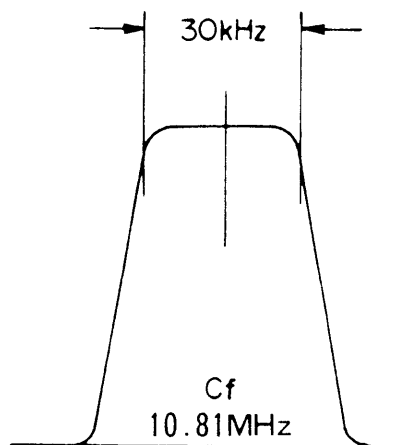

Figure 1
- (c) Adjust the cores of T_{1005} , T_{1006} and T_{1014} until the scope pattern illustrated in Figure 1 is obtained.